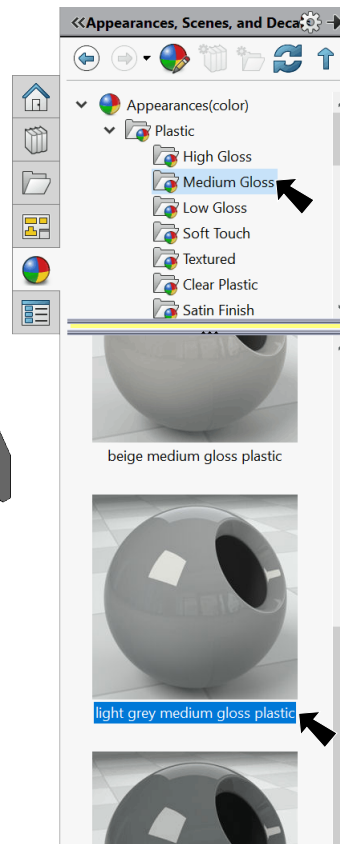

Fig. 132
Step 2. In the Appearances Task pane, expand **Plastic**, click **Medium Gloss** and in the lower pane select **light grey medium gloss plastic**, Fig. 132.